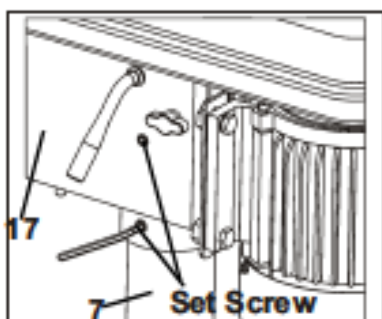

Fig 6
- Loosen the two Set Screws on the left side of the Headstock(17) so they will stay clear while installing it.
- Tighten the two Set Screw to secure the Headstock in place. **(Fig 6)**